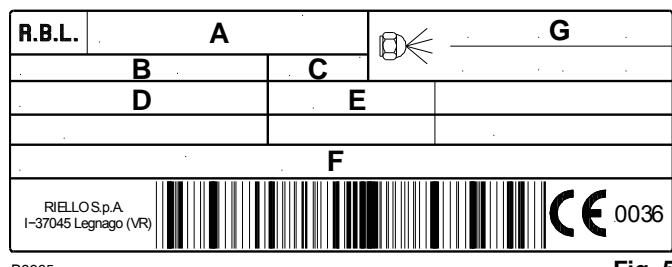

Fig. 5
- the model (see A in Fig. 5) and type of burner (B);
- the year of manufacture, in cryptographic form (C);
- the serial number (D);
- the electrical input power (E);
- the types of fuel used and the relative supply pressures (F);
- the data of the burner's minimum and maximum output possibilities (G) (see Firing rate)